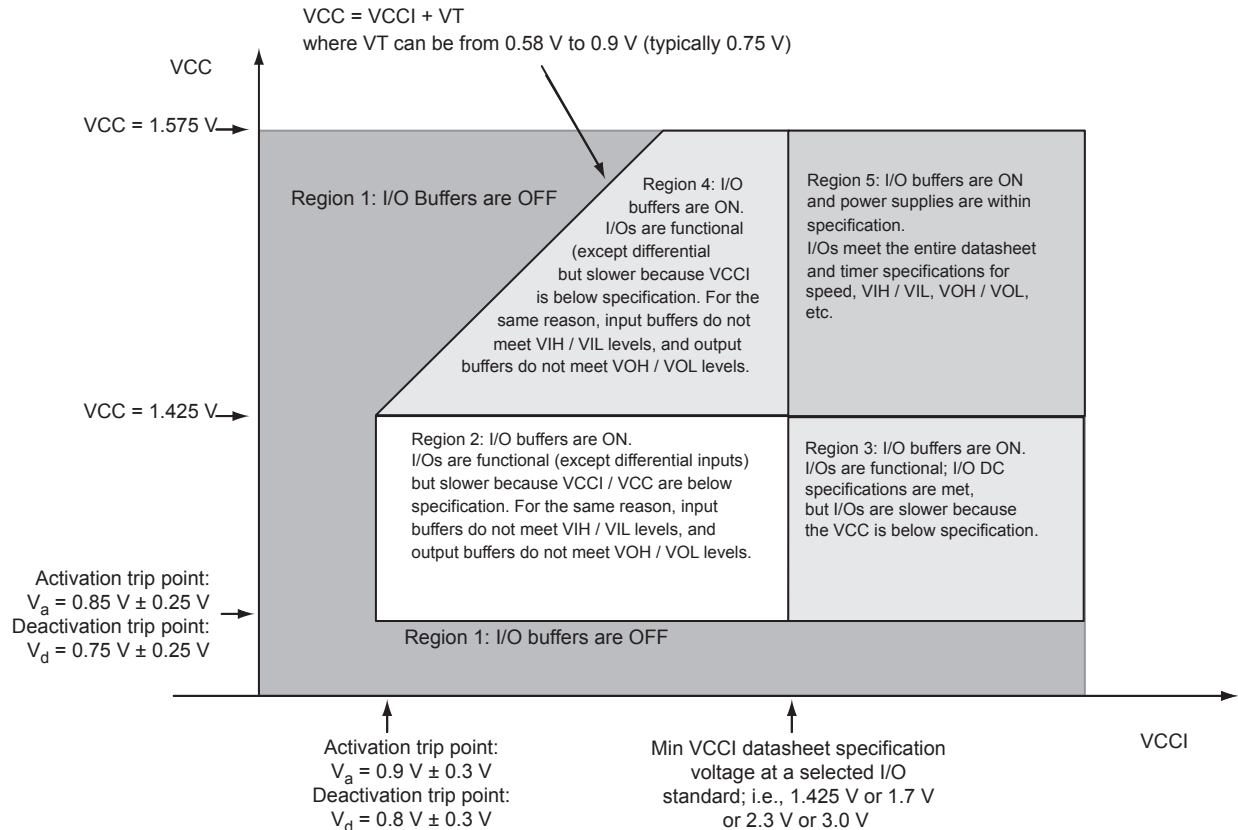

Figure 2-1 • I/O State as a Function of VCCI and VCC Voltage Levels
In addition, the I/O will be in a known state through the power-up sequence. The basic principle is shown in Figure 2-1 on page 2-4.
1. VCC and VCCI are above the minimum specified trip points (Figure 2-1 on page 2-4).
Microsemi recommends using monotonic power supplies or voltage regulators to ensure proper power-up behavior. Power ramp-up should be monotonic at least until VCC and VCCPLLX exceed brownout activation levels. The VCC activation level is specified as 1.1 V worst-case (see Figure 2-1 on page 2-4 for more details).